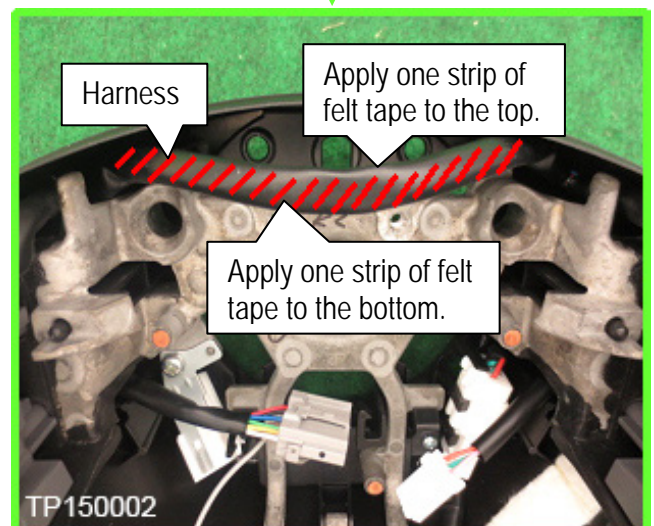

Figure 2
4. Gently remove harness from steering wheel housing as shown in Figure 2.
5. Apply one piece of felt tape to the top and one piece to the bottom of the harness area shown shaded in red in Figure 2.